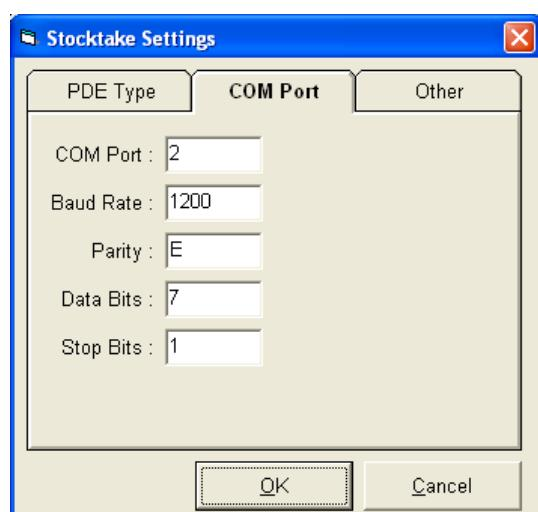

Figure 332
5. The 'COM Port' tab (see Figure 332) allows you to set your handheld device and its connection to your PC.